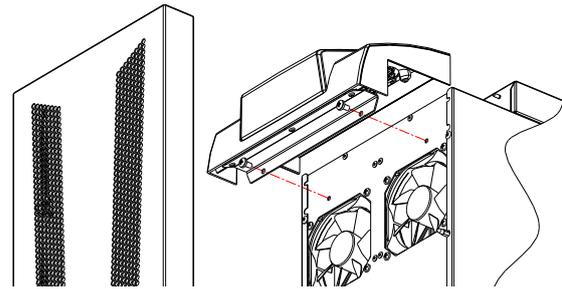

Figure 14 – bottom view
- 1) Remove the frontal panel pulling it (Figure 14).